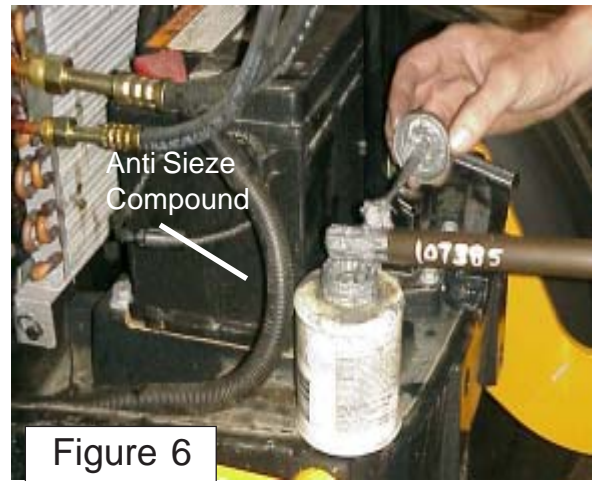

Figure 6
8. Coat the splined end of shaft with anti-seize compound Coat the splines of the protruding end of end of the driveshaft with an anti-seize compound (See Figure 6). Do not use an excessive amount and do not use grease.